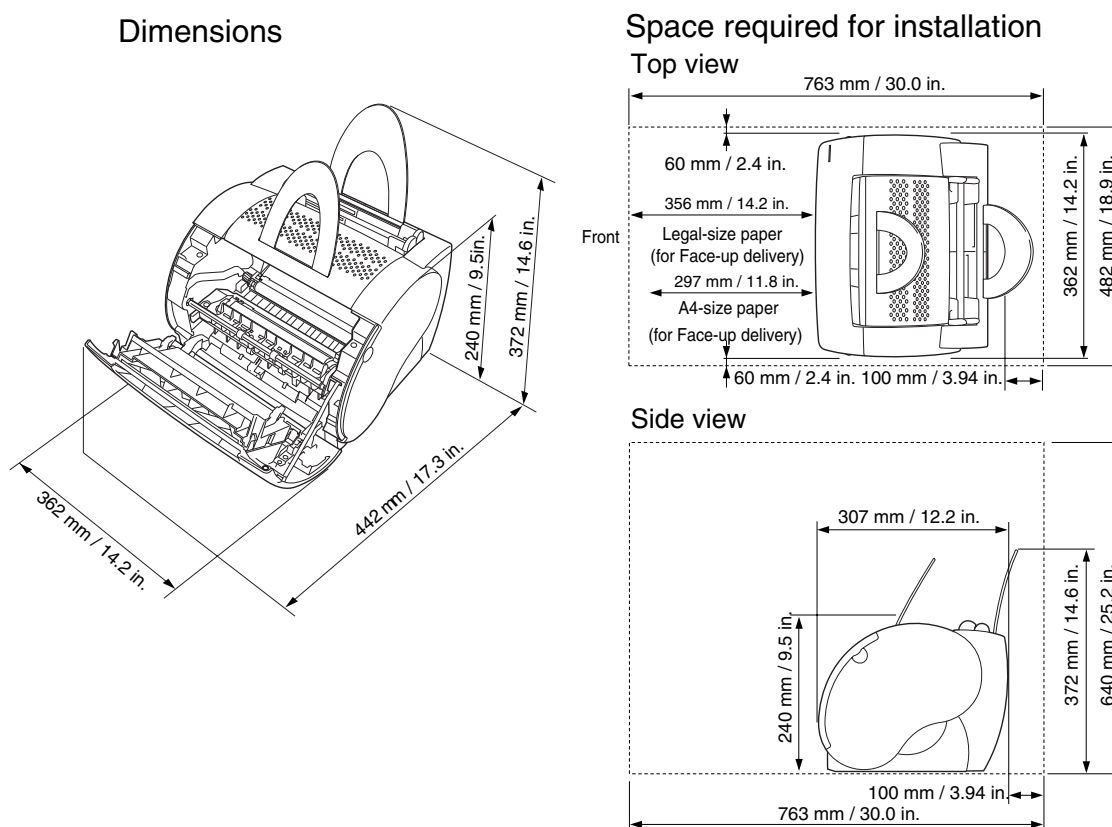

Figure 1-5-1
- Set the printer at a suitable distance from the wall for easy operation (See Figure 1-5-1.)